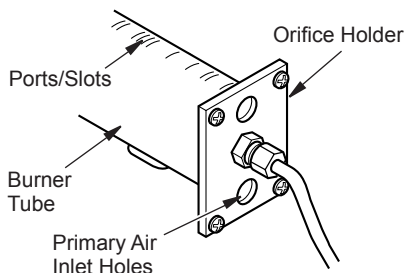

Figure 37 - Orifice Holder On Outlet Burner Tube
2. Inspect burner, pilot and primary air inlet holes on orifice holder for dust and dirt (see Figure 37).